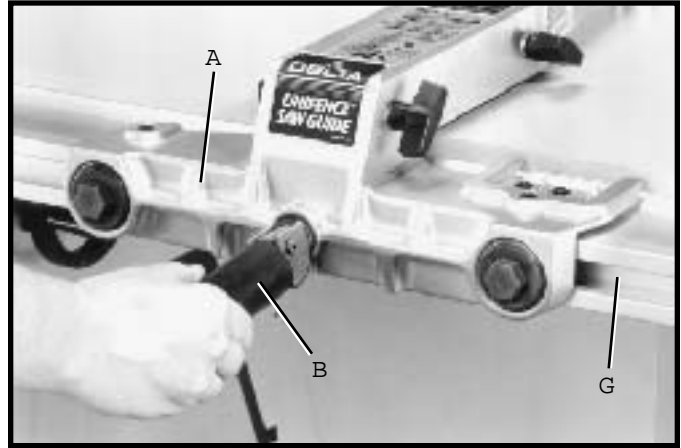

Fig. 66
2 Place fence body (A) Fig. 66, onto the guide rail as shown, making sure clamp bracket is inserted into channel (G) on rail. Notice that the clamp handle (B) is turned to the left indent position.